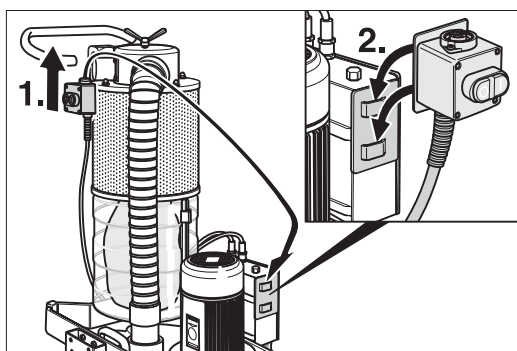

Fig. 25 Hook the on/off switch into the transport holder on the switchbox.
- 3 Unhook the on/off switch from the chassis and onto the transport holder on the switchbox (Fig. 25).